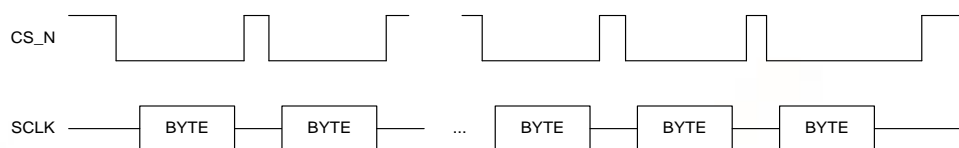

Figure 7-9. CS_N Deassert Mode
- Configurable option to control CS_N deassert between byte transfers. The controller supports a special transmission format called CS_N deassert mode. Figure 7-9 illustrates the waveform in this transmission format.